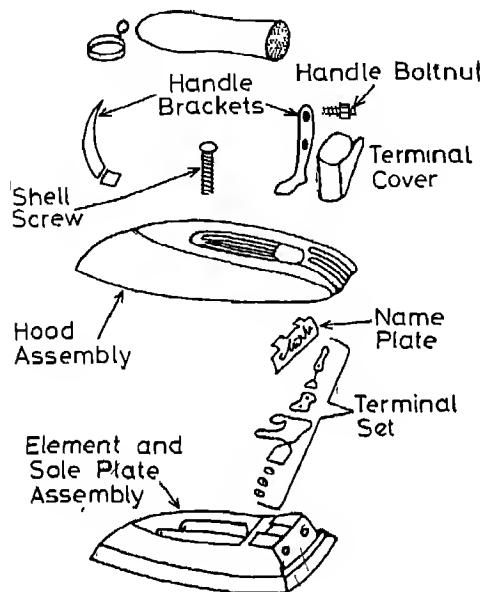

Fig. 10.1(b) Parts of Non-automatic Iron.
- Study and check each component of the non-automatic iron shown in Fig. 10.1(b) and make a list of components.